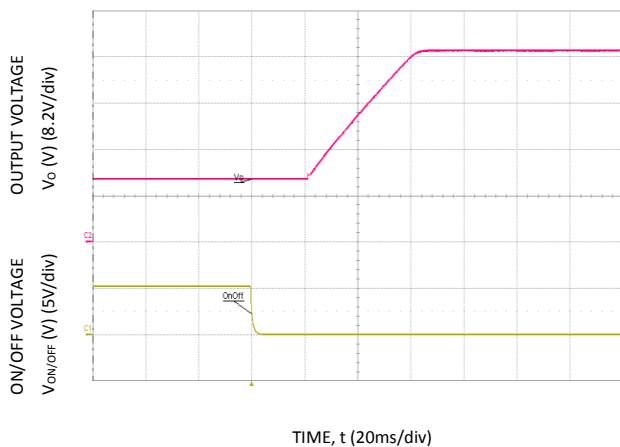

Figure 23. Typical Start-up Using On/Off Voltage ($I_o = I_{o,max}$).
3. Please note because of the specific design of the BOOST topology, the input voltage will present on the output when the input voltage is applied. This will occur even when the unit is in its "OFF" State. When the module is turned ON, the output voltage will start to rise from V_{in} level and not 0V. When turning off, the output will only drop back to V_{in} (If V_{in} is still present). Please refer to Figure 23 for typical start-up waveform using Remote ON/OFF. It shows the V_{in} level present prior to turning the module "ON"
When the module is turned ON, the output voltage will start to rise from Vin level and not 0V. When turning off, the output will only drop back to Vin (If Vin is still present). Please refer to Figure 23 for typical start-up waveform using Remote ON/OFF. it shows the Vin level present prior to turning the module "ON"